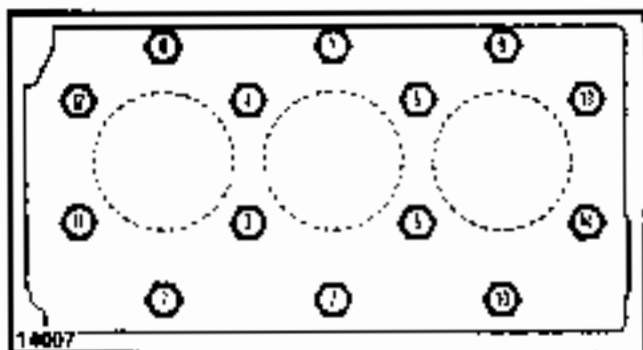

FIG. A.17 CYLINDER HEAD TIGHTENING SEQUENCE (See Torque Specification Table.)
4. Install the capscrews and torque them following the sequence illustrated in Fig. A.17 and to the values given in the "Torque Specifications" table.